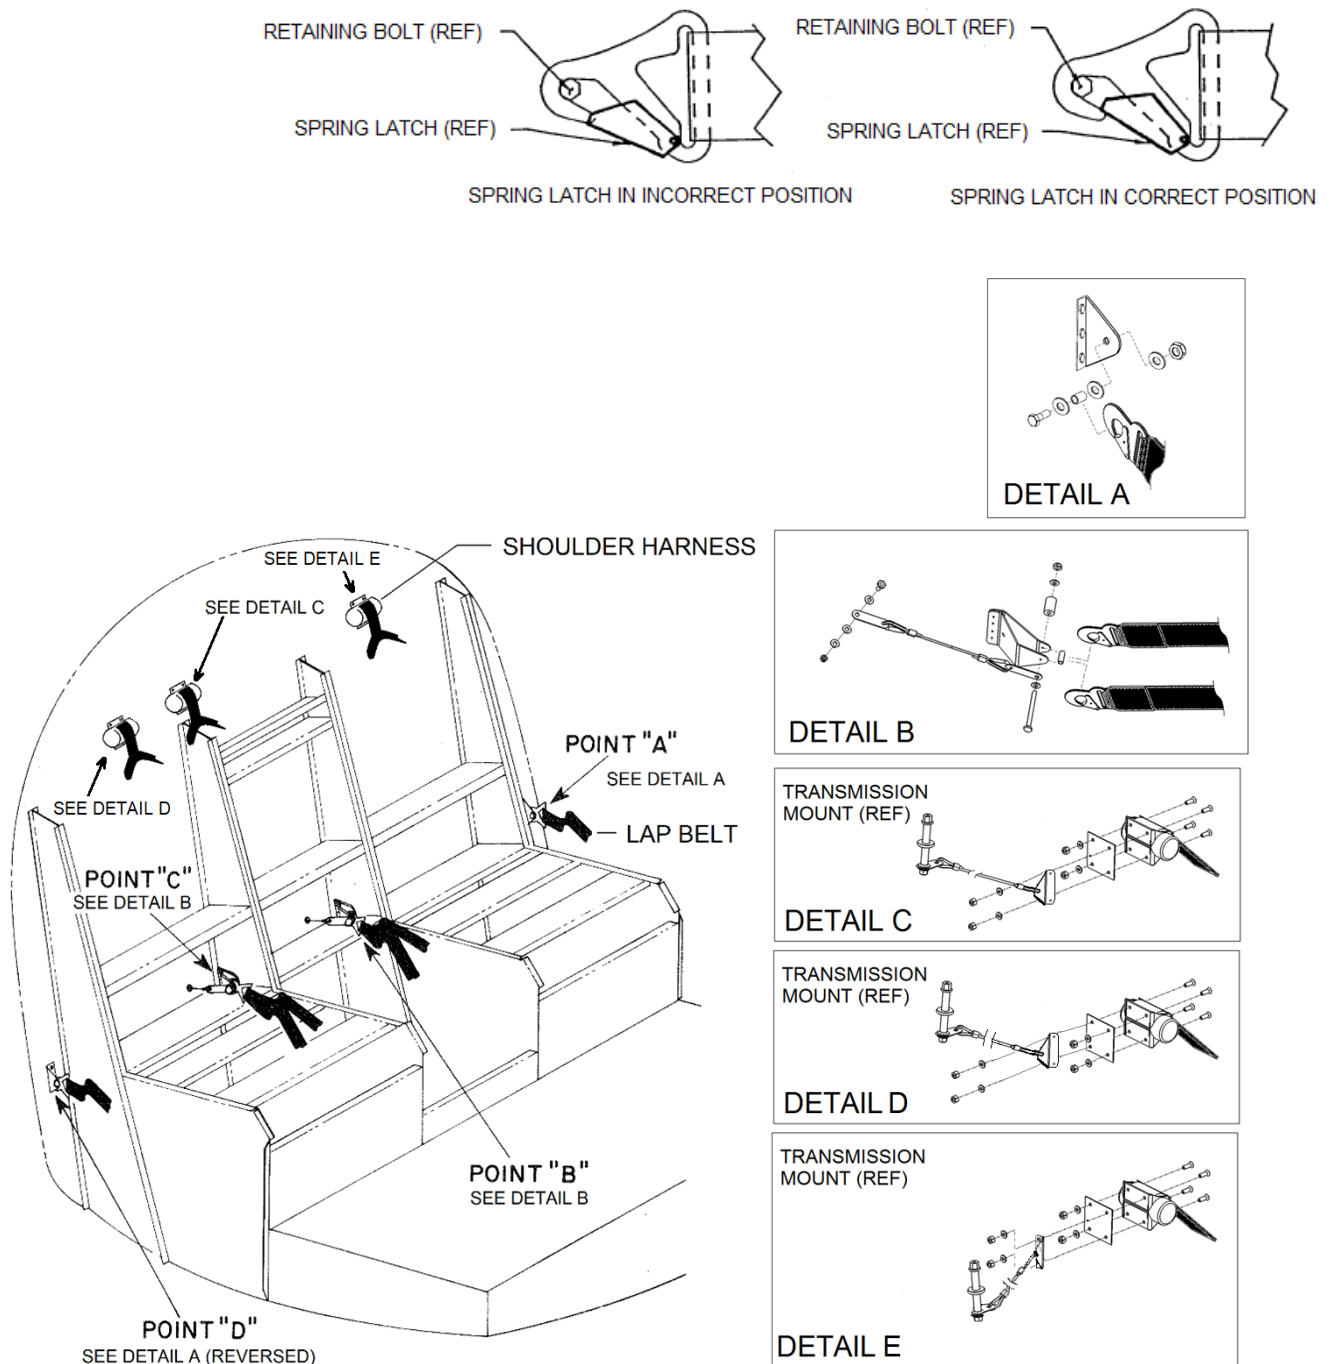

Figure 8-6. Seat Belt Attachment
A. Lap Belt Removal (Figure 8-6)
- (1) Remove seat cushions.
- (2) Disconnect attachment end of lap belts by applying pressure to the spring-loaded latch and opening it sufficiently to clear the structural attach point as it is lifted.
B. Shoulder Harness Removal (Figure 8-6)
- (1) Remove fuel cells (Para. 13-10, B, (1)).
NOTE: The belt fitting should be installed with the clasp facing down and the spring latch closed (see Figure 8-6).
(a) Attach seat belt half with release mechanism to left rear cabin wall structural attach point. See Figure 8-6, Point "A".
(b) Attach seat belt half with flat tab to structural attach point right of left center seat beam. See Figure 8-6, Point "B".
(a) Attach seat belt half with release mechanism to the structural attach point right of left center seat beam. See Figure 8-6, Point "B".
(b) Attach seat belt half with flat tab to structural attach point right of right center seat beam. See Figure 8-6, Point "C".
(a) Attach seat belt half with release mechanism to the structural attach point right of right center seat beam. See Figure 8-6, Point "C".
- (b) Attach seat belt half with flat tab to right rear cabin wall structural attach point. See Figure 8-6, Point "D".
- (1) Attach shoulder harness to cabin backwall with screws, washers, and nuts (4 places per attachment) (shown in Figure 8-6, Detail C, Detail D, and Detail E).
- (2) Install fuel cells (Para. 13-10, B, (2)).